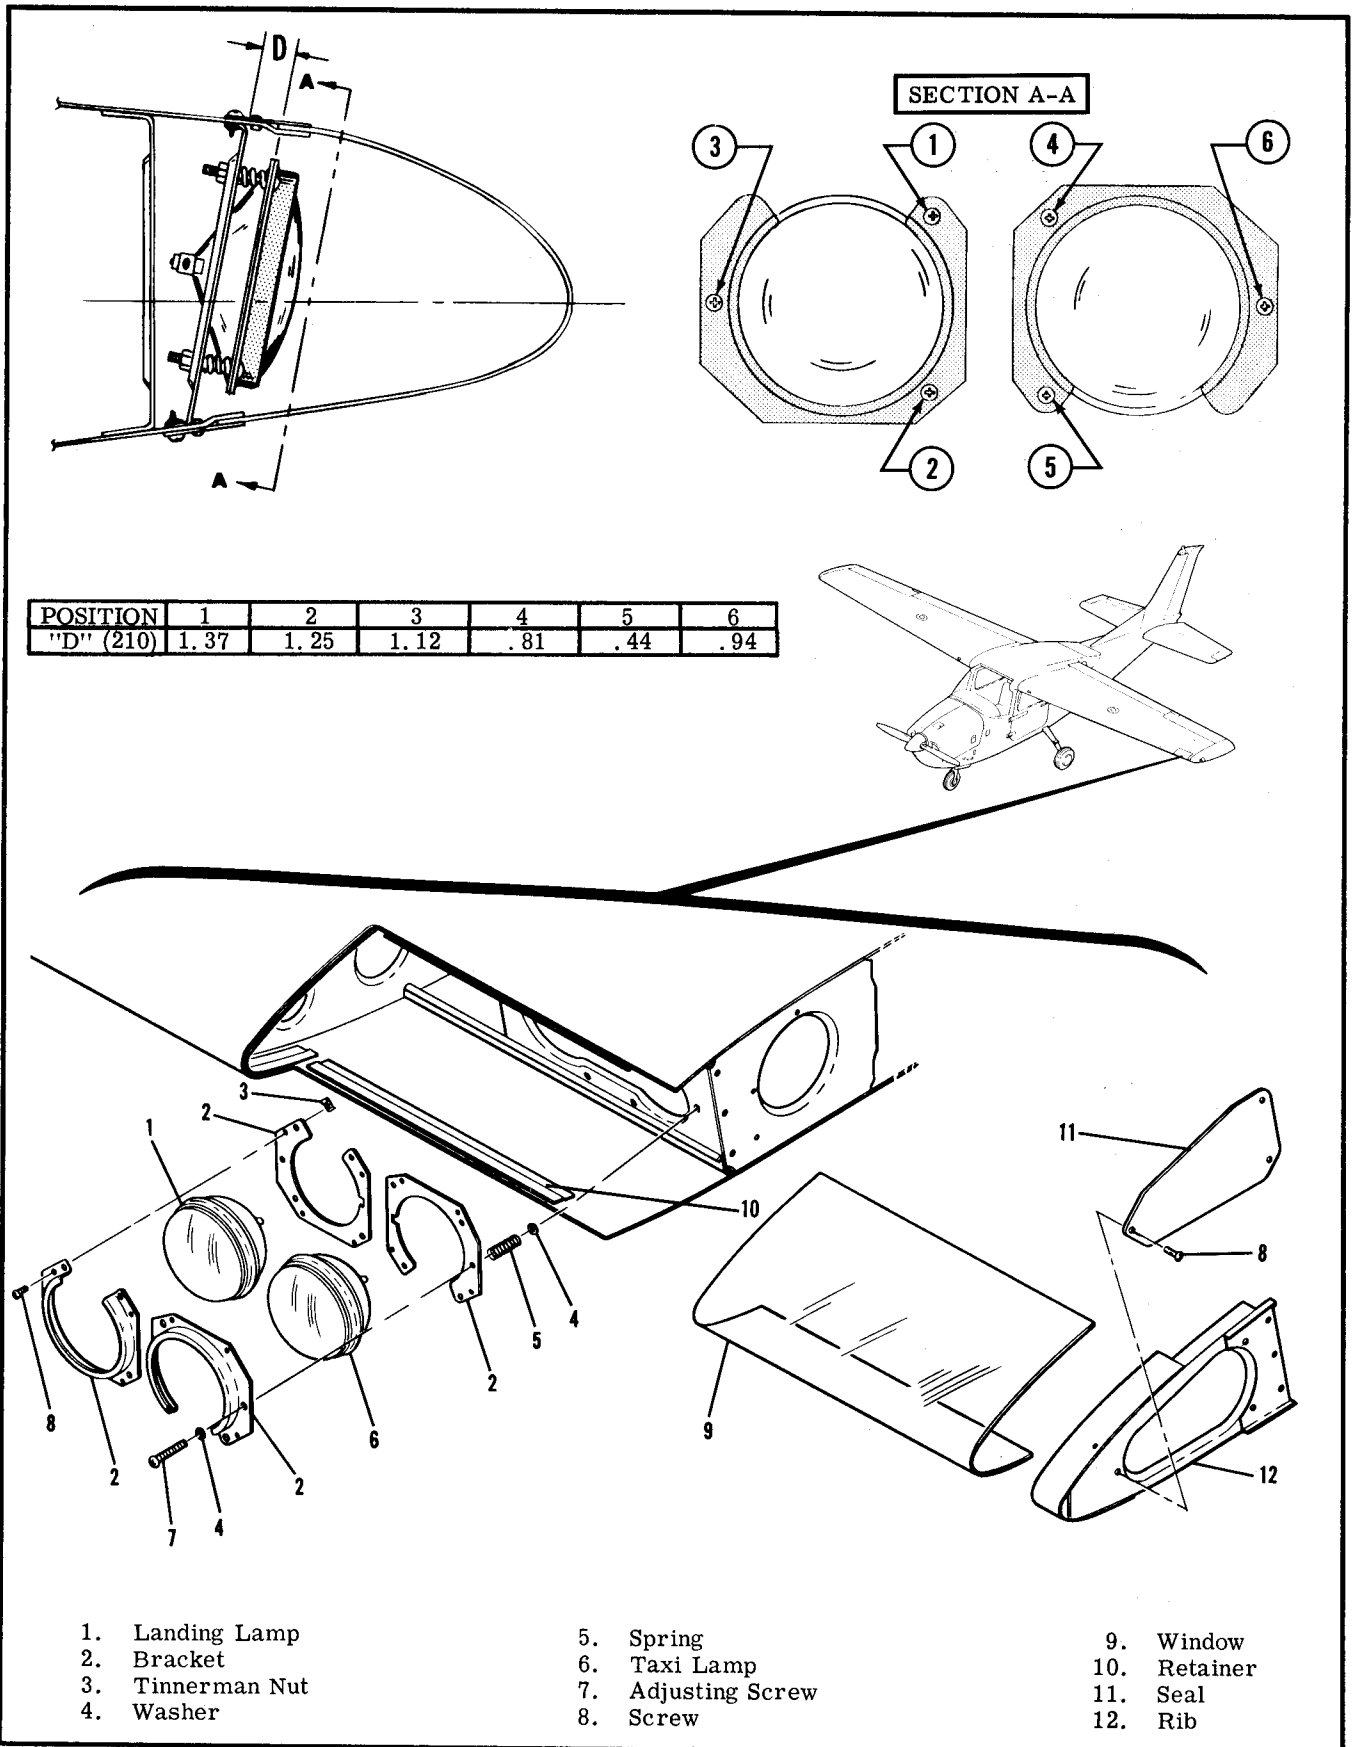

Figure 17-6. Landing Light Installation and Adjustment
17-40. **REMOVAL AND REPLACEMENT OF LANDING AND TAXI LIGHTS.** (See figure 17-6.)
- c. Using a short screwdriver, reach in through the lightening hole and remove the four attaching screws (8) from the bracket assembly and remove the bracket.
Do not reposition the landing and taxi light adjustment screws (7). If readjustment is required, refer to figure 17-6.